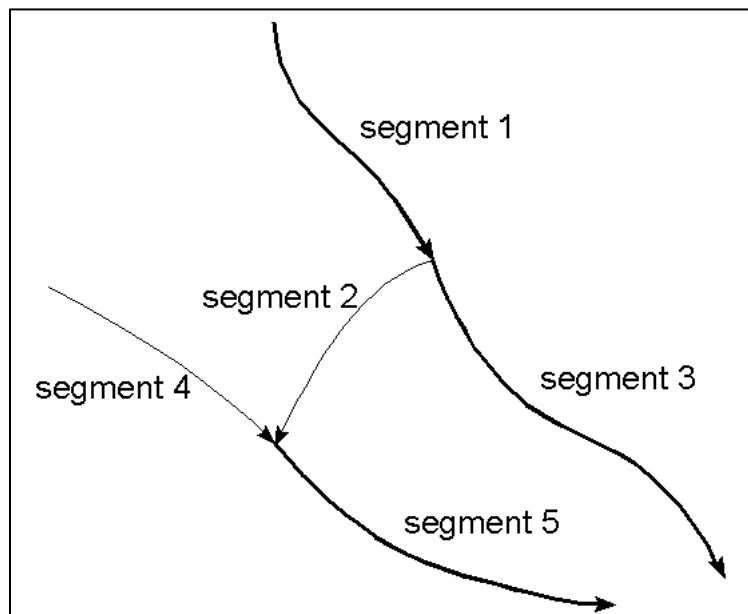

Figure 81. The stream system defined by the table in Figure 80
- **Structure:** Click this button to open the Stream Structure dialog box (Figure 80) that defines the structure of the stream system as shown in Figure 81. The table of dialog box indicates that segment 2 is diverted from segment 1, segment 1 is a tributary segment of segment 3, and segments 2 and 4 are tributary segments of segment 5.